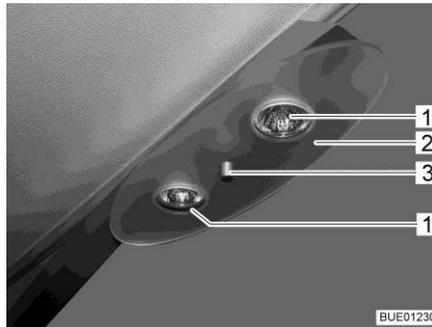

Fig. 191 Halogen ceiling lamp
- Unscrew retaining nut (Fig. 191,3) and remove cover plate (Fig. 191,2).
- Remove halogen bulb (Fig. 191,1).